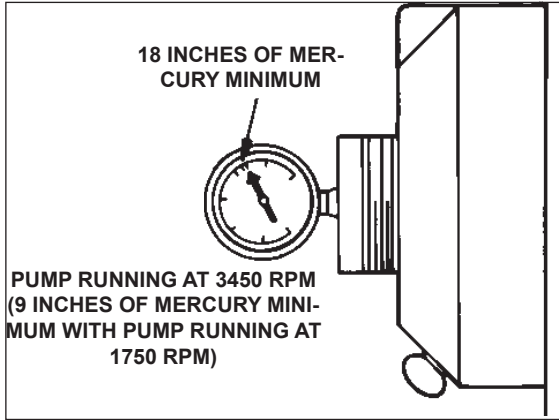

FIGURE 4.
2. Shut off power source to pump. Shut off valves to and from pump. While observing all safety precautions for the liquid being pumped, disconnect suction and discharge lines and drain the pump completely. Fill the pump with water. Install a vacuum gauge in the suction port (see figure 4). Turn on power source. Vacuum should exceed 18" of mercury when pump shaft is rotating at 3450 RPM and should equal or exceed 9" of mercury with pump shaft rotating at 1750RPM. If vacuum is below these values, check the following:
- e. Check for worn impeller and/or volute. If necessary, replace these parts. (See items 14 and 15 of section V).